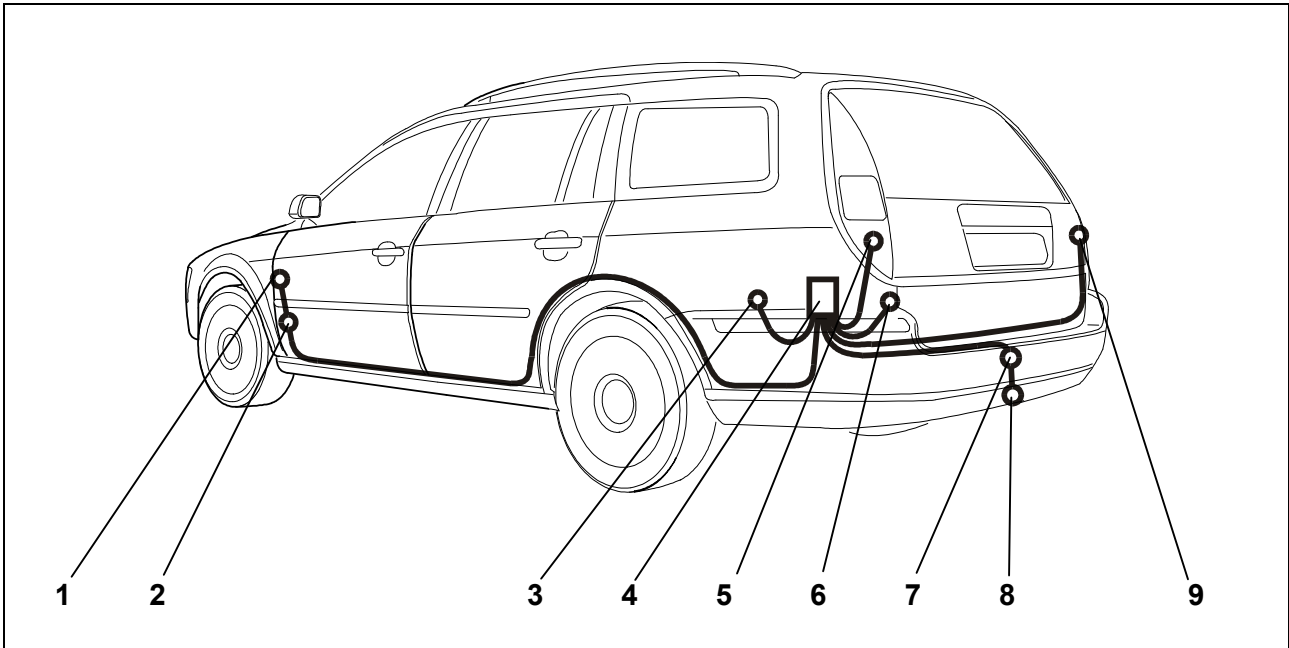

Fig. 1.: Installation Overview
4. Bore a hole with a diameter of 19 mm for the cable leadthrough (Fig. 1/7) in a suitable place.
6. Starting in the luggage trunk, lead the cable end through the vehicle's cable leadthrough (Fig. 1/7) to the outside and from there to the socket holder plate (Fig. 1/8).
7. Insert the rubber grommet into the cable leadthrough (Fig. 1/7).
9. Connect the cable harness to the socket housing in accordance with the *socket pin assignment plan* (Fig. 1/8) and push the rubber grommet towards the socket.